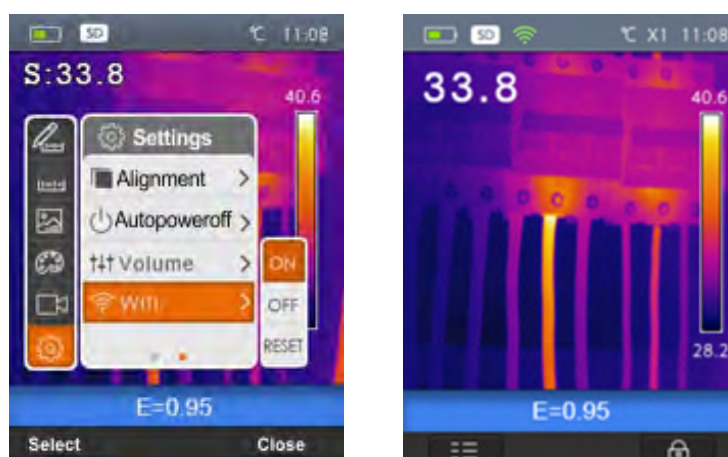

Fig. 16: WiFi connection setting
1. Select the “WiFi” item using the keys or and press the key . The screen of Fig. 16 – left side is shown on the display
2. Use the keys or to set the option “ON” (enable - symbol is displayed as shown in Fig. 16 – right side) or “OFF” (disable)